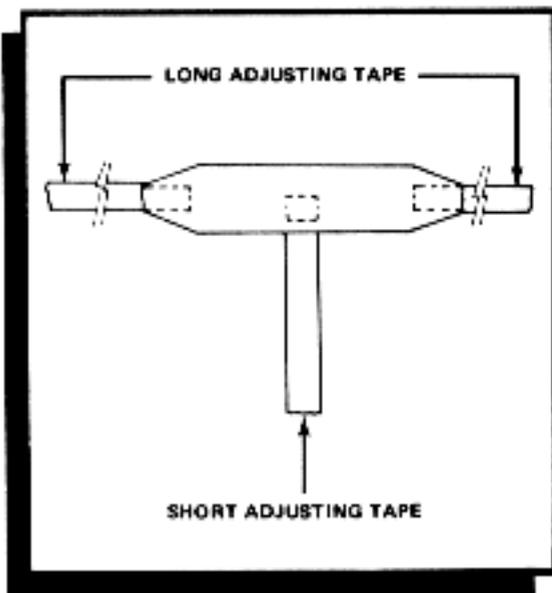

Figure 2-19. Liner neckband.
*Liner neckband.* The helmet liner neckband (figure 2-19) is a web strap with a long adjusting tape sewn to each end and a